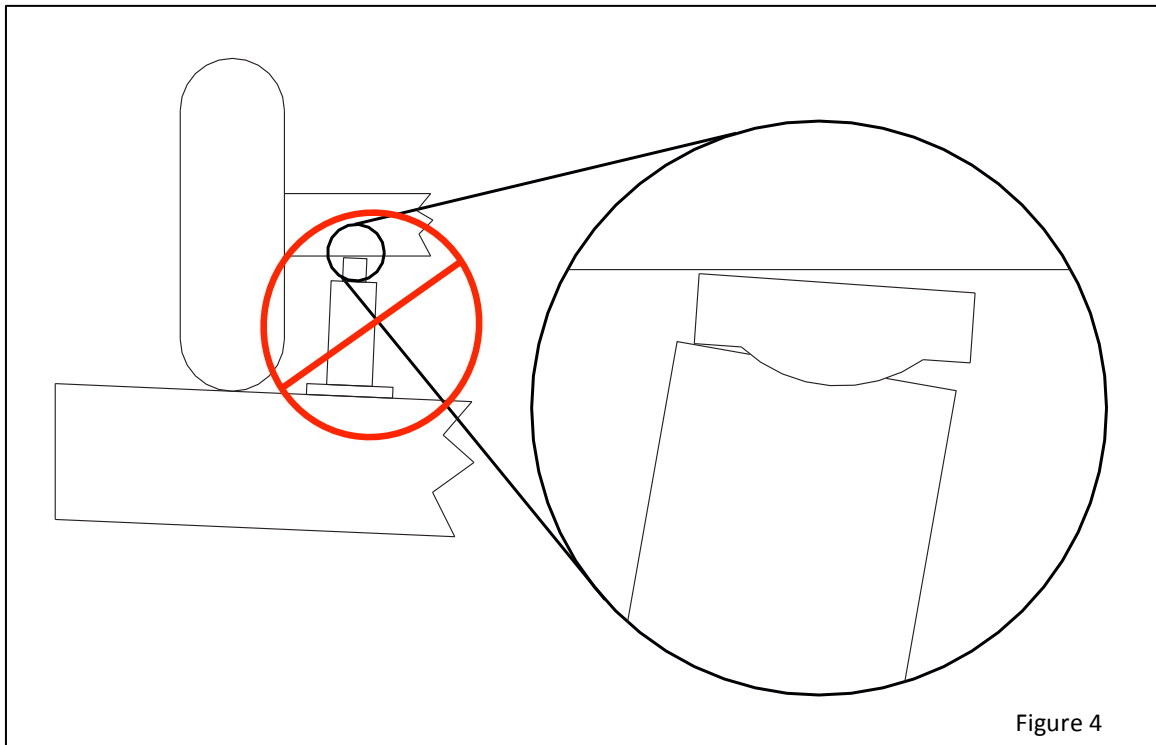

Figure 4
2. Do not use the jack on maintenance pads (floors) that are not level. (See Figure 4)